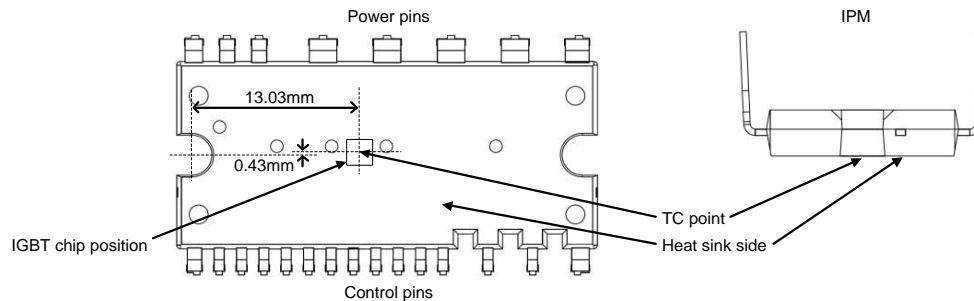

Figure 1.  $T_C$  Measurement Point
- For the measurement point of case temperature ( $T_C$ ), please refer to Figure 1.